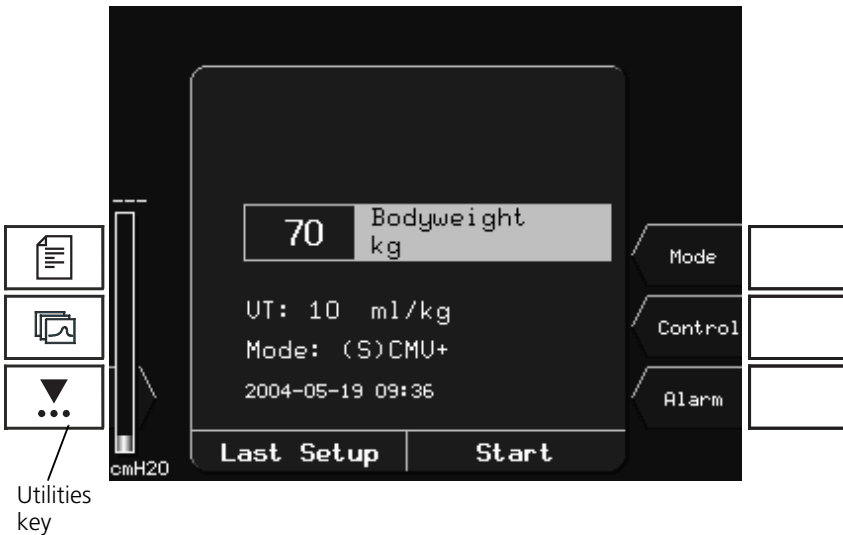

Figure 2-18. Bodyweight window
3. The bodyweight window opens (Figure 2-18). Press the utilities key (the bottom left-hand key) to open the utilities window. Run the required tests and calibrations (Table 3-1).